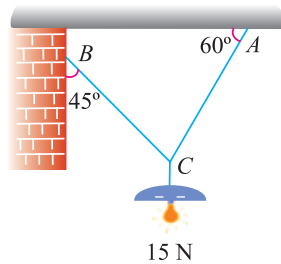

Fig. 5.3.
**Example 5.1.** An electric light fixture weighting 15 N hangs from a point C, by two strings AC and BC. The string AC is inclined at  $60^\circ$  to the horizontal and BC at  $45^\circ$  to the horizontal as shown in Fig. 5.3